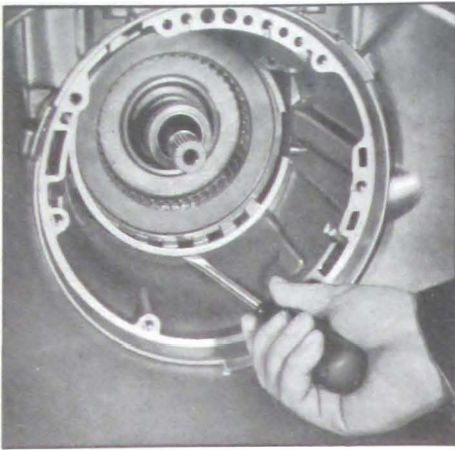

Figure 5-545
12. Remove the intermediate clutch backing plate to case snap ring. See Figure 5-545.